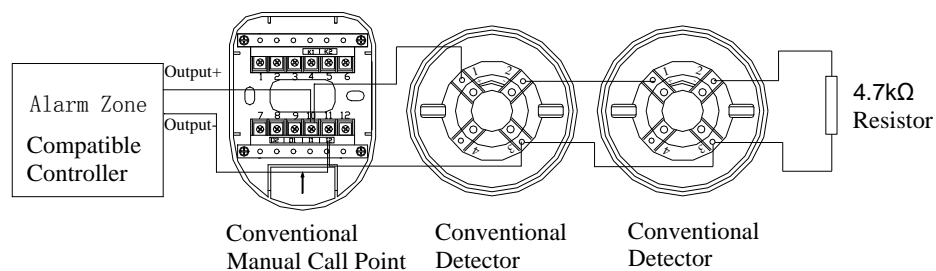

Fig. 7 System application
- When the active end of line unit is not used in the output loop, a 4.7kΩ resistor can be connected to the end of loop. 1N5819 Diode is not connected to the detector base. System application is shown in Fig. 7.